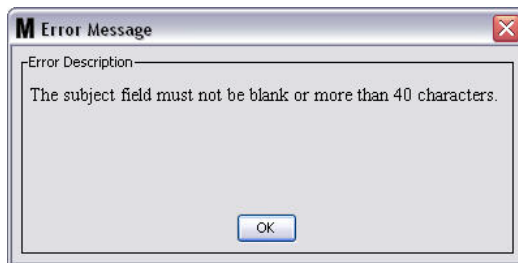

FIG. 143
- **Subject:** Identifies reason for e-mail message being sent. You must provide a subject. The error message shown in FIG. 143 pops up if you click the OK button without providing a Subject.